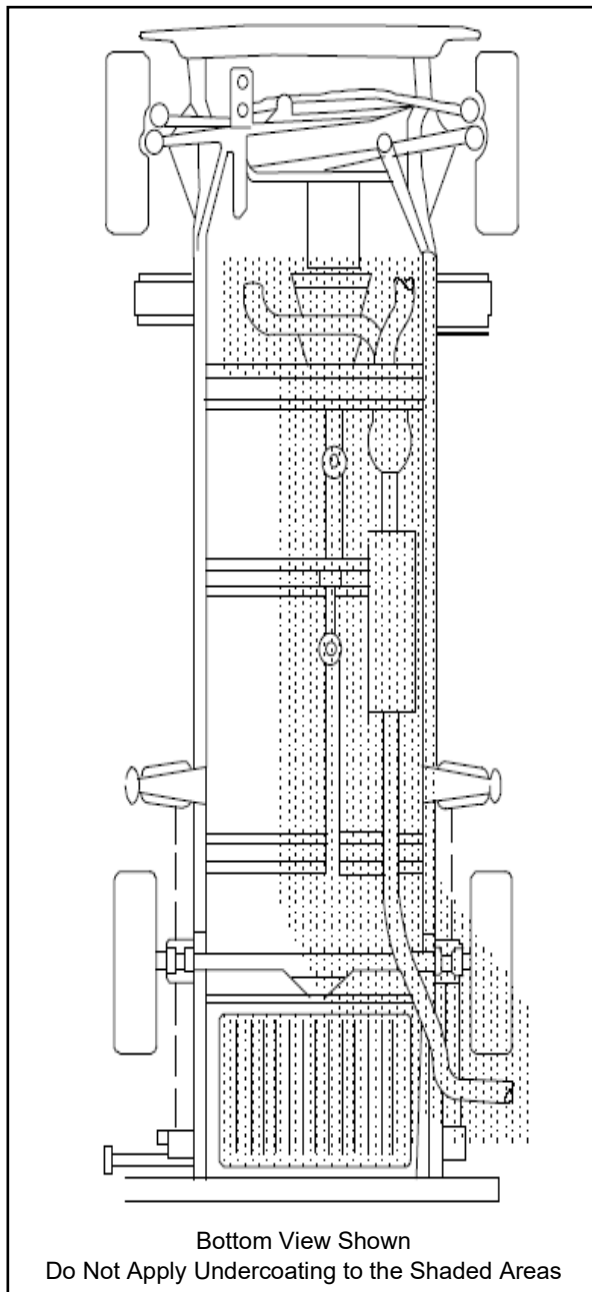

Figure 15 – Undercoating “Keep Out” Areas
- Do not apply body undercoating within 20.3 cm (8 inches) of any exhaust system component, or to any part of any exhaust system. See Figure 15. Undercoating may smoke or burn if subjected to high heat. See the “Heat Management” section for additional information.